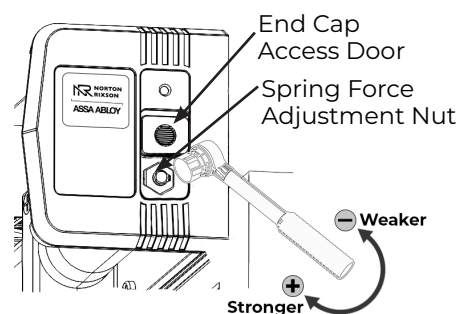

Figure 34
3. Using a ratchet with an 11/16" socket, turn the nut in end of closer body tube clockwise to increase or counterclockwise to decrease force until the desired setting is reached. (Figure 34)